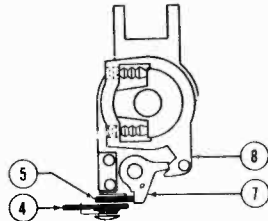

Fig. 5
- a. With a 10" record on the Turntable (34), start changer and turn Control Knob (37) to "REJ." position. Allow changer to cycle and just after Pick-up Arm (1) drops down, shut changer off. Raise Pick-up Arm (1) and be sure that leg of Index Lever (7) is in the first step of the Adjusting Ring (8) as shown in Fig. 5.